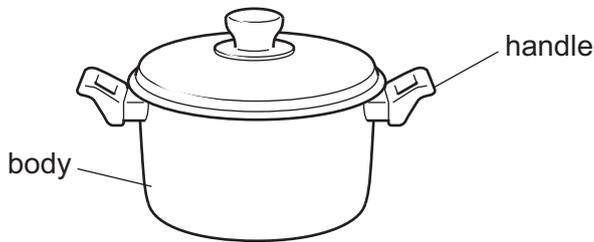

Fig. 2.1
- 2 Fig. 2.1 shows a saucepan. The body is made from ferrous metal. The handle is made from thermosetting plastic.